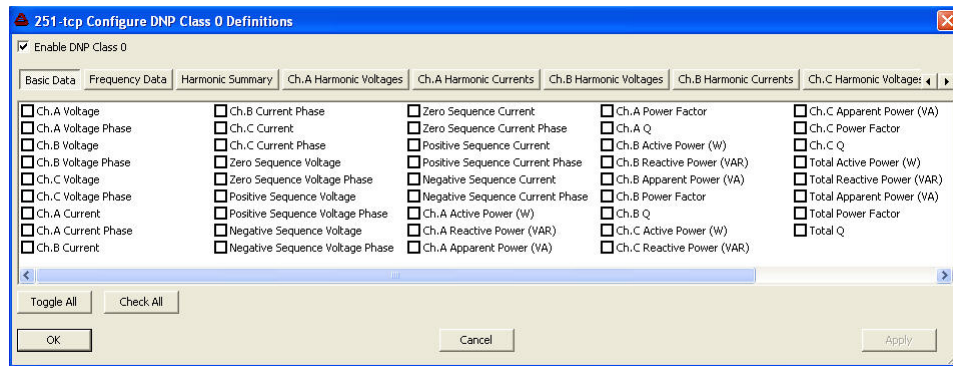

Figure 7.8: DNP 3.0 Class 0 Definition Selection
of DNP 3.0 data required by your equipment. Selections include (1) Basic Data, (2) Frequency Data, (3) Harmonic Summary Data, (4) Harmonic Voltage and Current Data of all channels (to the fiftieth harmonic), and (5) Energy Register data. The selection window is shown in Figure 7.8 below.